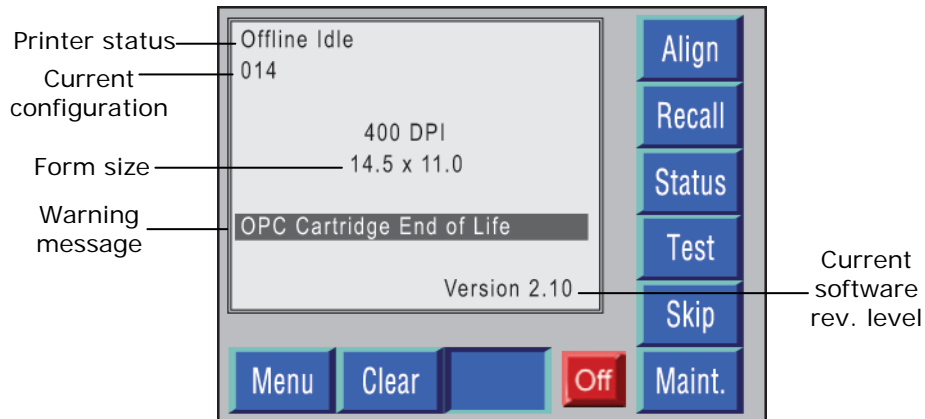

Figure 4-3. Warning message.
- When the full life of the item has been reached, the printer displays the message *End of Life*, which indicates that the item should be replaced as soon as possible. Continuing to use the printer with this consumable may compromise print quality. (See Figure 4-3 for an example.)